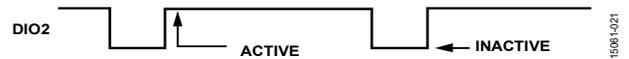

Figure 29. Data Ready, when FNCTIO\_CTRL, Bits[3:0] = 1101 (default)
The factory default configuration provides the user with a data ready (DR) signal on the DIO2 pin, which pulses low when the output data registers are updating (see Figure 29). In this configuration, connect DIO2 to an interrupt service pin on the embedded processor, which triggers data collection, when this signal pulses high. Register FNCTIO\_CTRL, Bits[3:0] (see Table 144), provides user configuration options for this function.